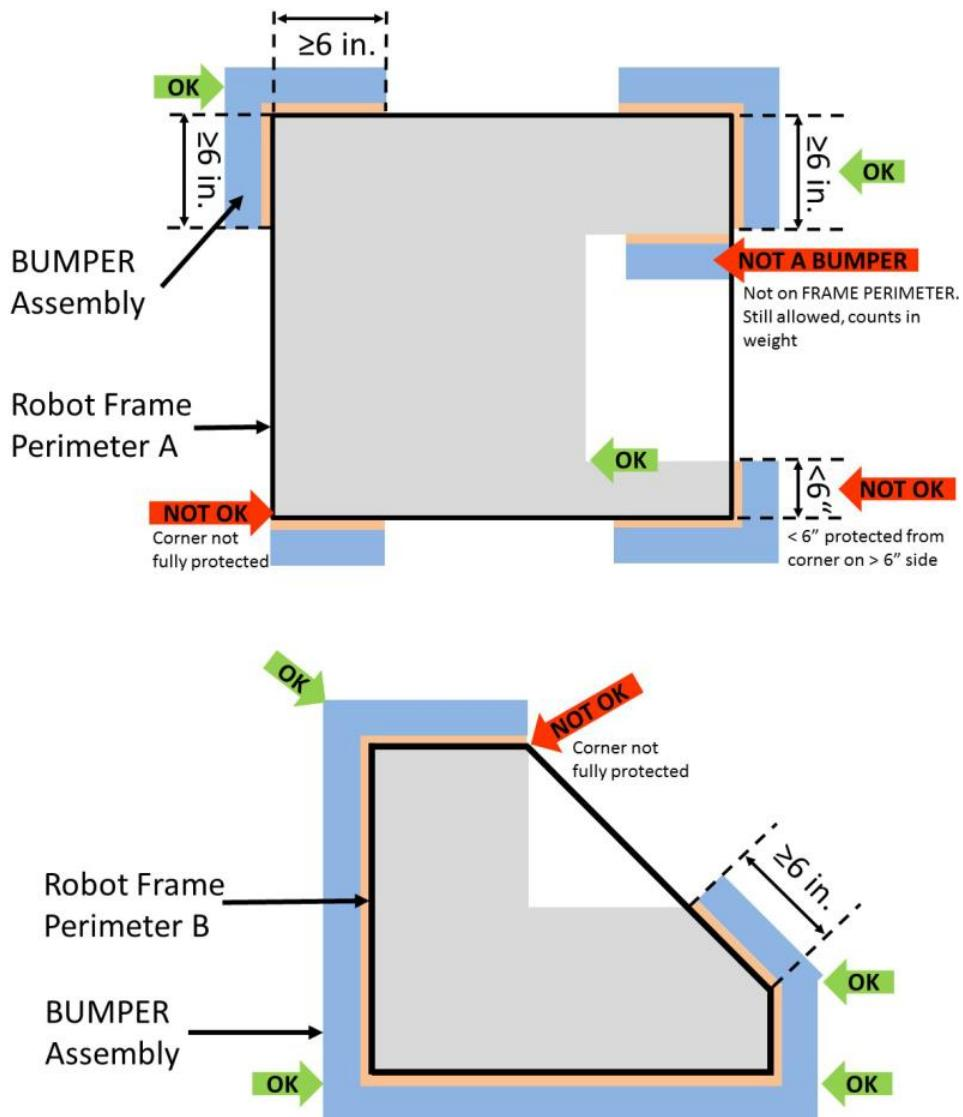

Figure 10-2 BUMPER corner examples
- R24.** ROBOTS are required to use BUMPERS to protect all outside corners of the FRAME PERIMETER. For adequate protection, at least 6 in. (~16 cm) of BUMPER must be placed on each side of each outside corner (see Figure 10-2 BUMPER corner examples) and must extend to within  $\frac{1}{4}$  in. (~6
The dimension defined in R24 is measured along the FRAME PERIMETER. The portion of the BUMPER that extends beyond the corner of the FRAME PERIMETER is not included in the 6 in. (~16 cm) requirement. See Figure 10-2.